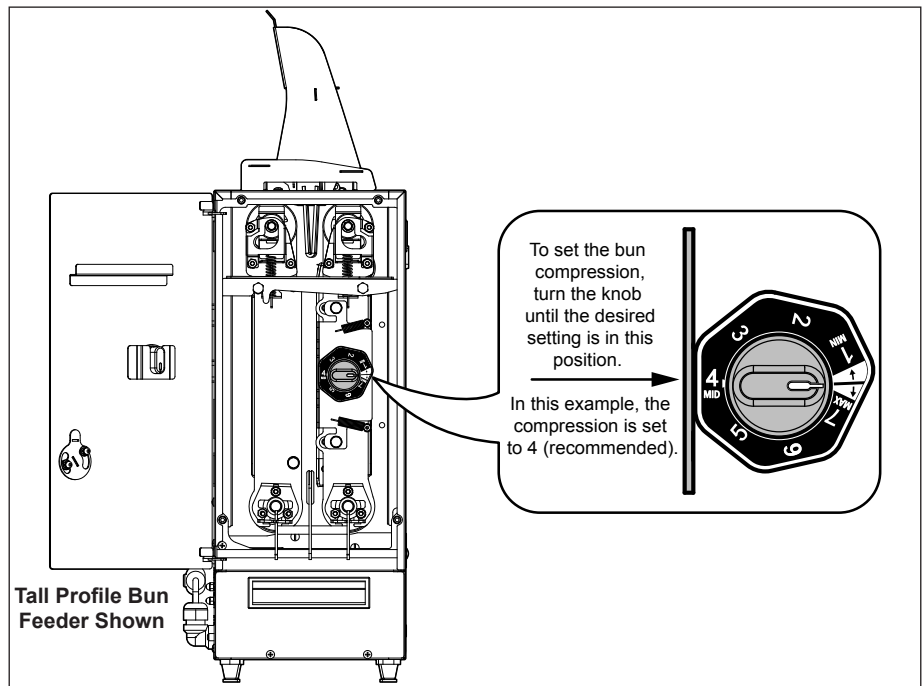

Figure 2. Compression Settings
2. Place the black knob on the cam as shown in Figure 2.
3. Turn the knob to the desired bun compression setting. The recommended setting is 4. See Figure 2.